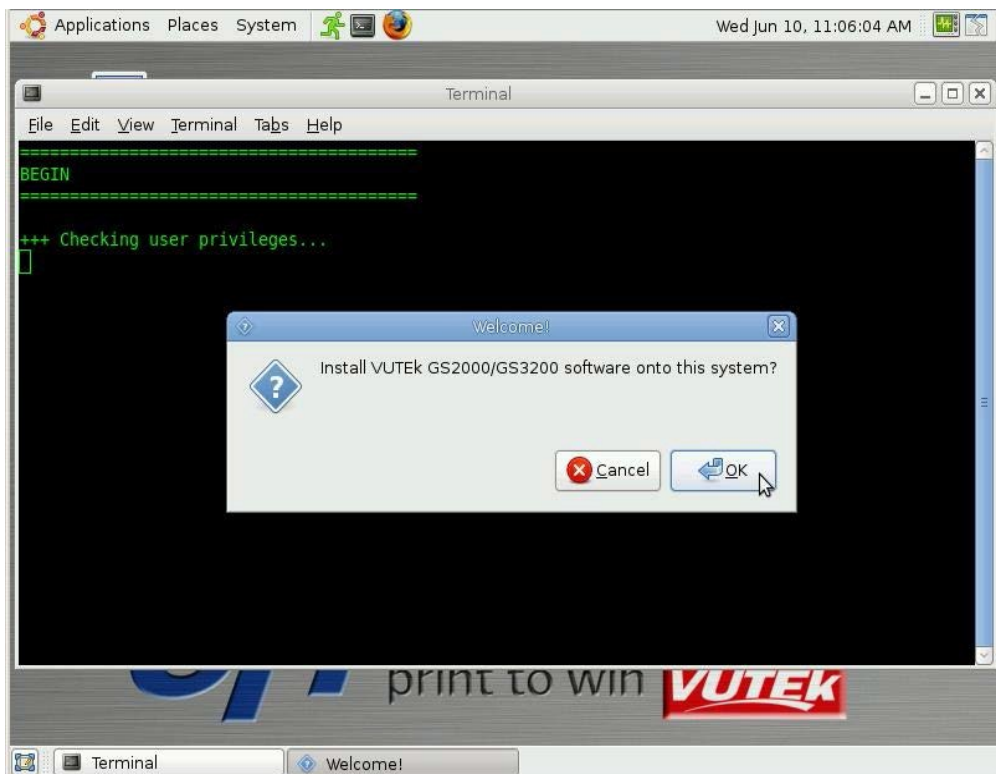

Figure 60: Confirmation Dialog Box
4. After double-clicking on GS2000/GS3200 Installer icon, installer will run and prompt for confirmation to begin installation as shown in **Figure 60**.